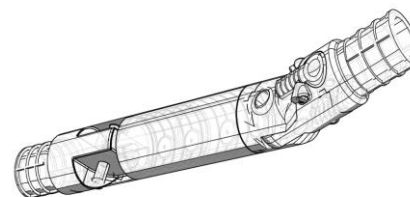

Figure 2
**flexilock** is the innovative hook fitted with an articulated locking-unlocking arm (fig. 2). Its unique shape and off-center and counter-lateral position allows emergency aid personnel to operate even in conditions rendered difficult by the terrain, making it possible to carry out rescue operations in confined spaces and/or adverse situations, where standard scoop stretchers would be of no use. Moreover, **flexilock** has a central, anti-slip maneuvering handle that allows shifting the stretcher sideways or carrying heavy patients with the aid of more than one operator.